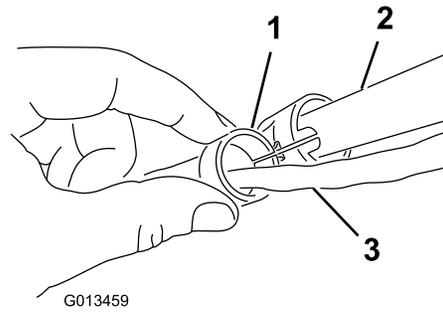

**Figure 1**
2. Install the upper handle to the lower handle of the appliance with the handle knobs, curved washers, and oval bolts as shown in Figure 1.